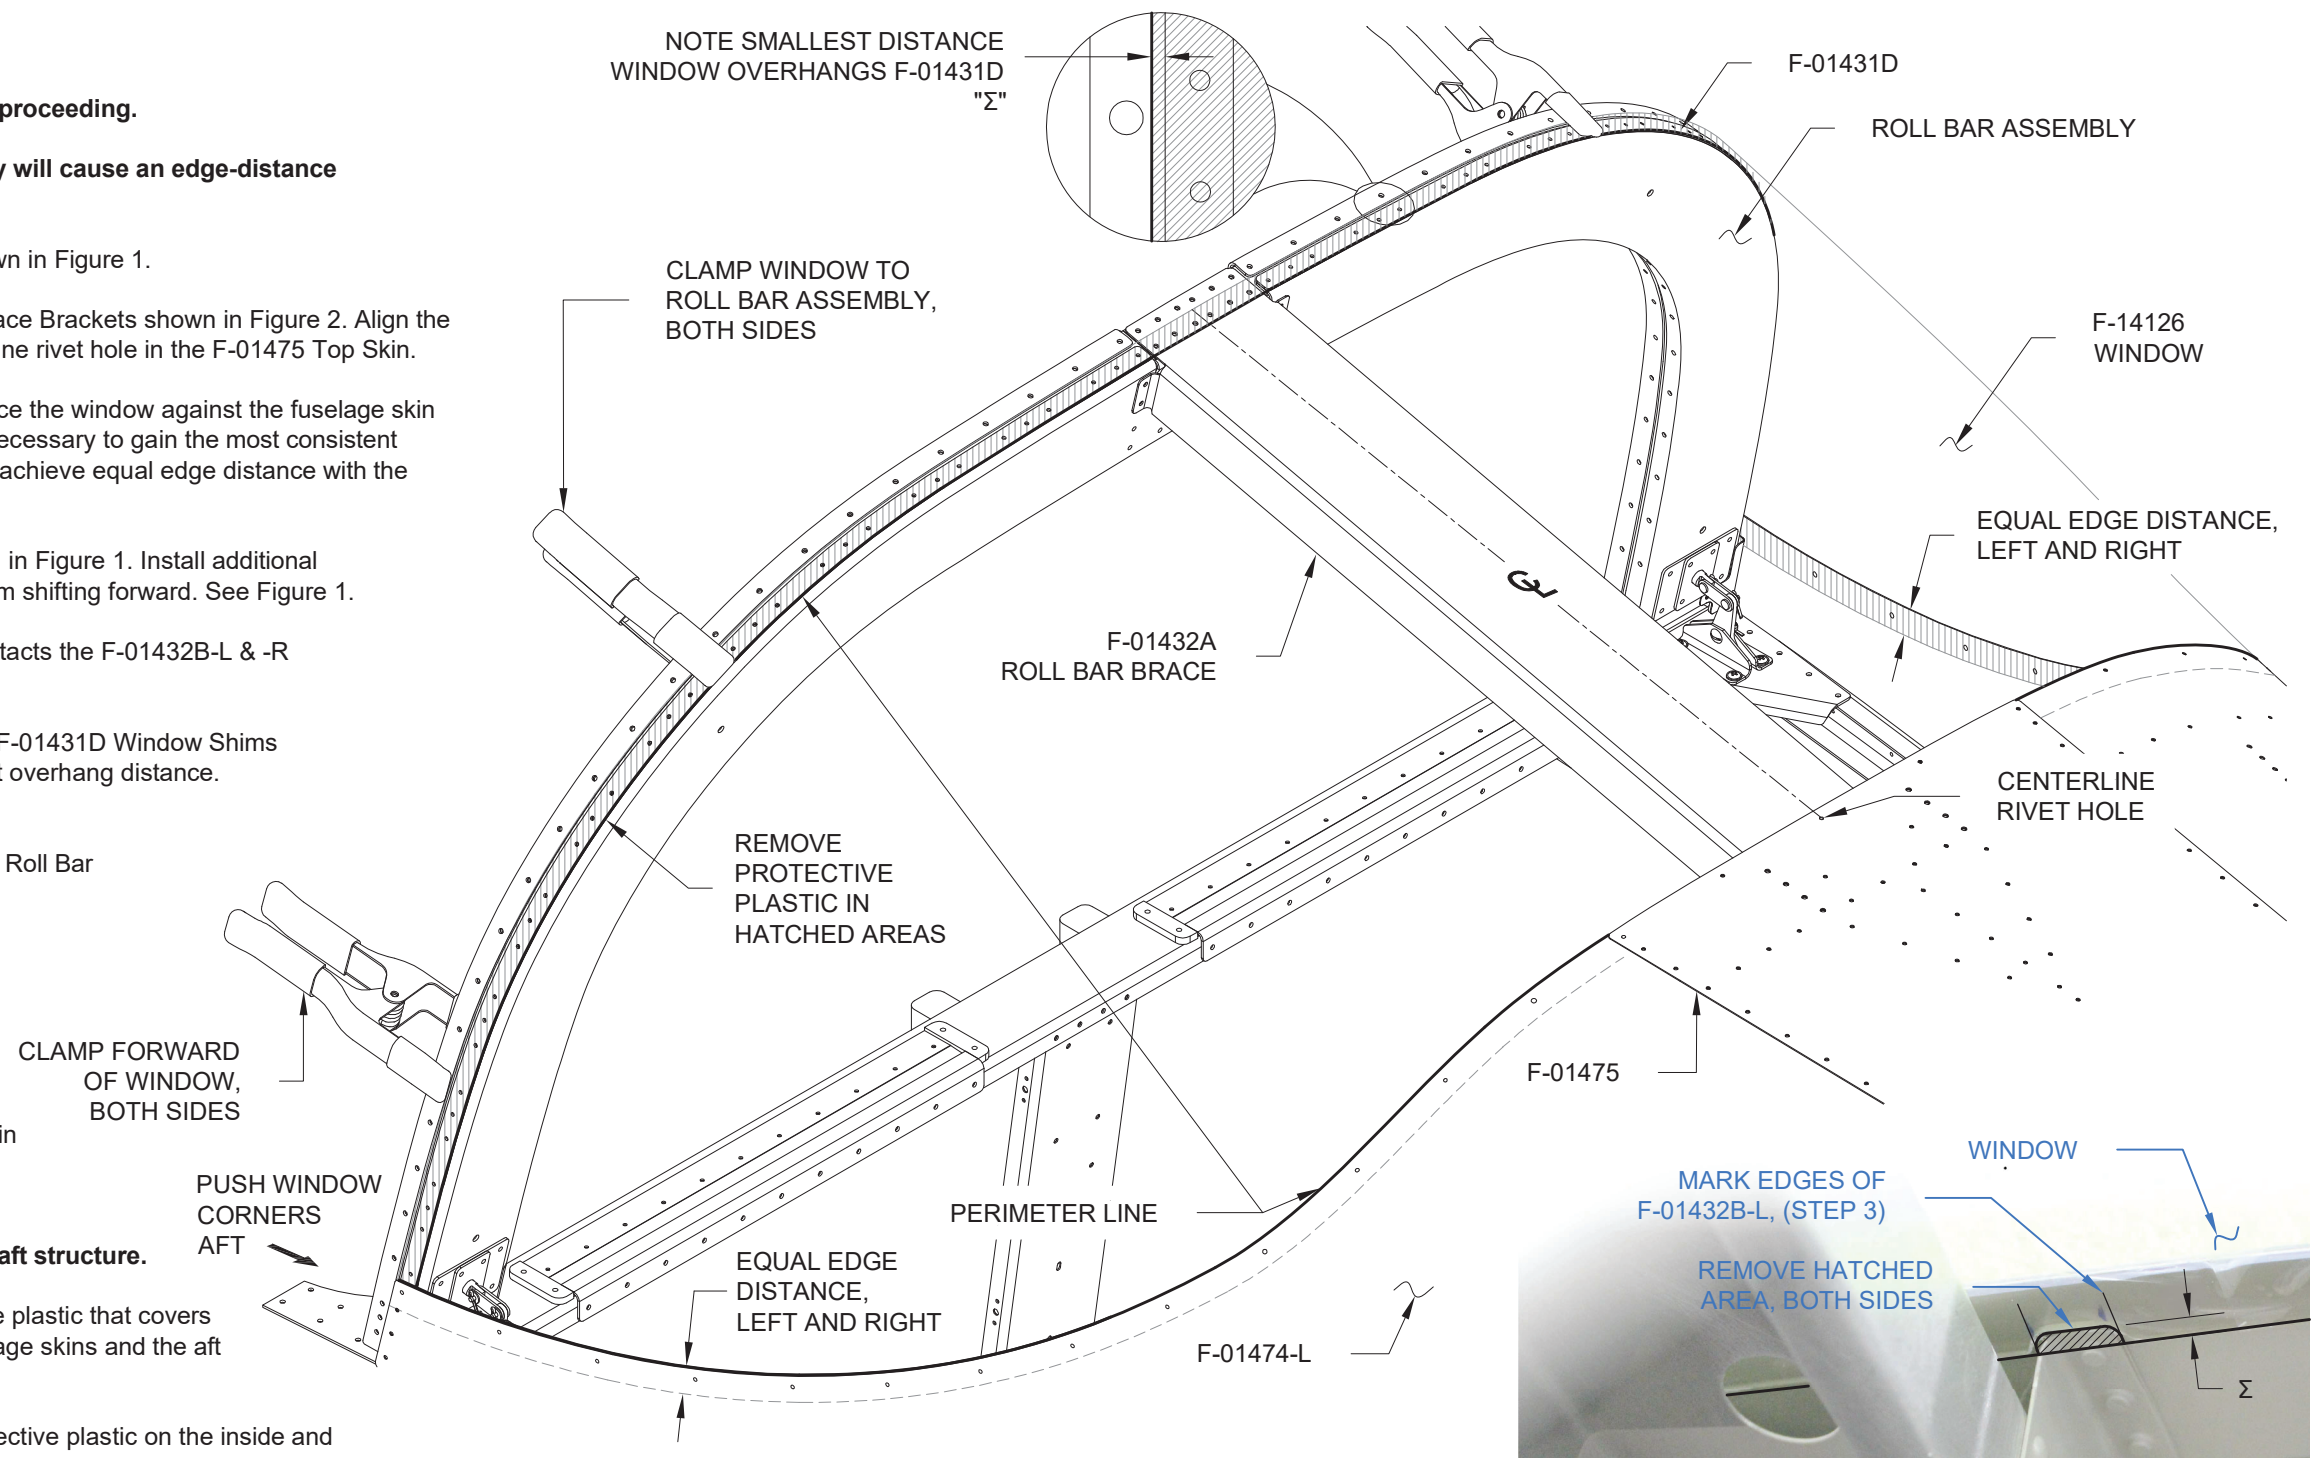

FIGURE 1: WINDOW PLACEMENT
Step 4: Measure the distance that the window overhangs the F-01431D Window Shims along the entire forward edge and make a note of the smallest overhang distance. See the detail view in Figure 1.
Step 8: Trace the perimeter of the fuselage onto the protective plastic that covers the outside of the window. Trace along the edges of the fuselage skins and the aft edge of the F-01431D Window Shims. See Figure 1.
NOTE: For all steps on this page, refer to Figure 1.